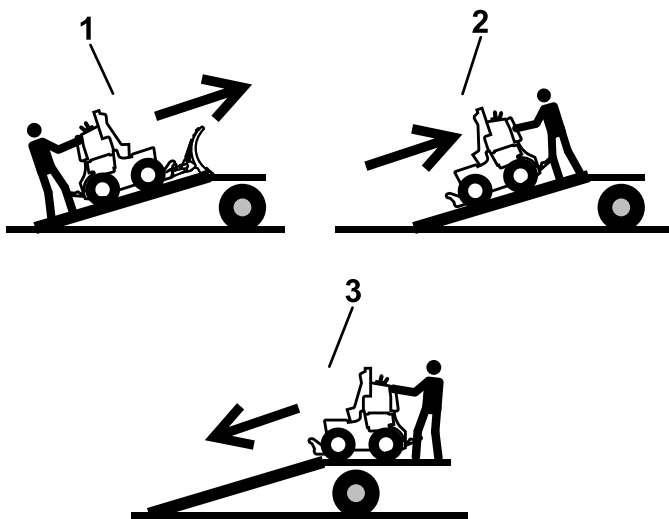

Figure 18
4. Walk the machine up the ramp if an attachment is installed; back the machine up the ramp if there is not an attachment installed (Figure 18).